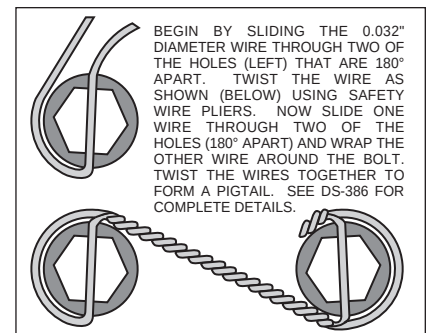

Figure 4. Safety Wire Diagram
- Slide the bracket kit assembly (1) onto the housing flange and then insert the axle assembly through the center hole of the bracket kit assembly (1). Secure using the stock Original Equipment Manufacturer (OEM) bolts and nuts. Stock OEM hex nuts that retain the bracket kit assembly (1) should be on the wheel side of the bracket. Apply red *Loctite*® 271 to the stock OEM bolt threads and torque to OEM specifications. Make sure the bracket kit assembly (1) brake pads are FACING OUTWARD TOWARDS THE WHEEL.
- With the larger I.D. side of the rotor (3) facing away from the hat (2), bolt rotor (3) to hat (2) through the backside of the rotor using washers (4) and bolts (5). Using an alternating sequence, apply red *Loctite*® 271 to the threads and torque bolts to 140 in-lb. For an added measure of security, the bolts may be safety wired using standard 0.032 inch diameter stainless steel safety wire as shown in Figure 4. Please refer to Wilwood's data sheet DS-386 (available at www.wilwood.com/Pdf/DataSheets/ds386.pdf) for complete safety wire installation instructions.
- Align the correct hole pattern in the hat (2) with the stud pattern on the axle flange. **NOTE:** Some OEM and aftermarket axles come with stud sizes larger than 0.50" diameter. Verify stud size and have a qualified machine shop drill the hats to the correct size, if necessary. Slide the hat/rotor assembly (2 and 3) over the wheel studs covering the bracket kit assembly (1) and against the axle flange face. Check to be sure the hat seats squarely against the hub. Install a couple of lug nuts (finger tighten) to keep the rotor/hat assembly in place while continuing with the installation.